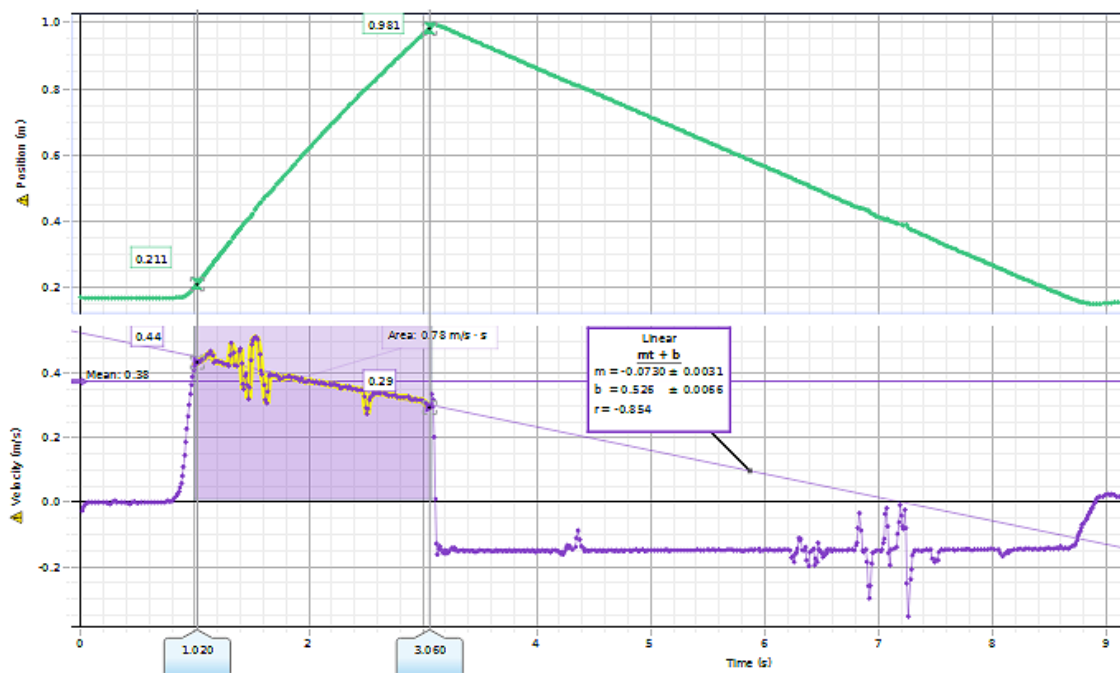

Fig. 3 - Sample plot of position vs time and velocity vs time
- Expand the scales on both the x and y axes to see the graph better as in Fig. 3. **To expand the scale on the y axis**, hover the mouse over the numbers above zero on the y scale, when you see this  symbol, hold the mouse and drag it upward (to expand) or downward (to compress). **To expand the scale on the x axis**, , hover the mouse over the
- Click on the position vs time graph to make it active. Then click on the \oplus icon and select “Add Multi-coordinates Tool”. Click and drag the position line to the point where the cart first started moving (Point 1). Note its position and time coordinates. Get another multicoordinates tool and get the coordinates of a point just before the cart hit the bumper (Point 2). (see Fig. 3)